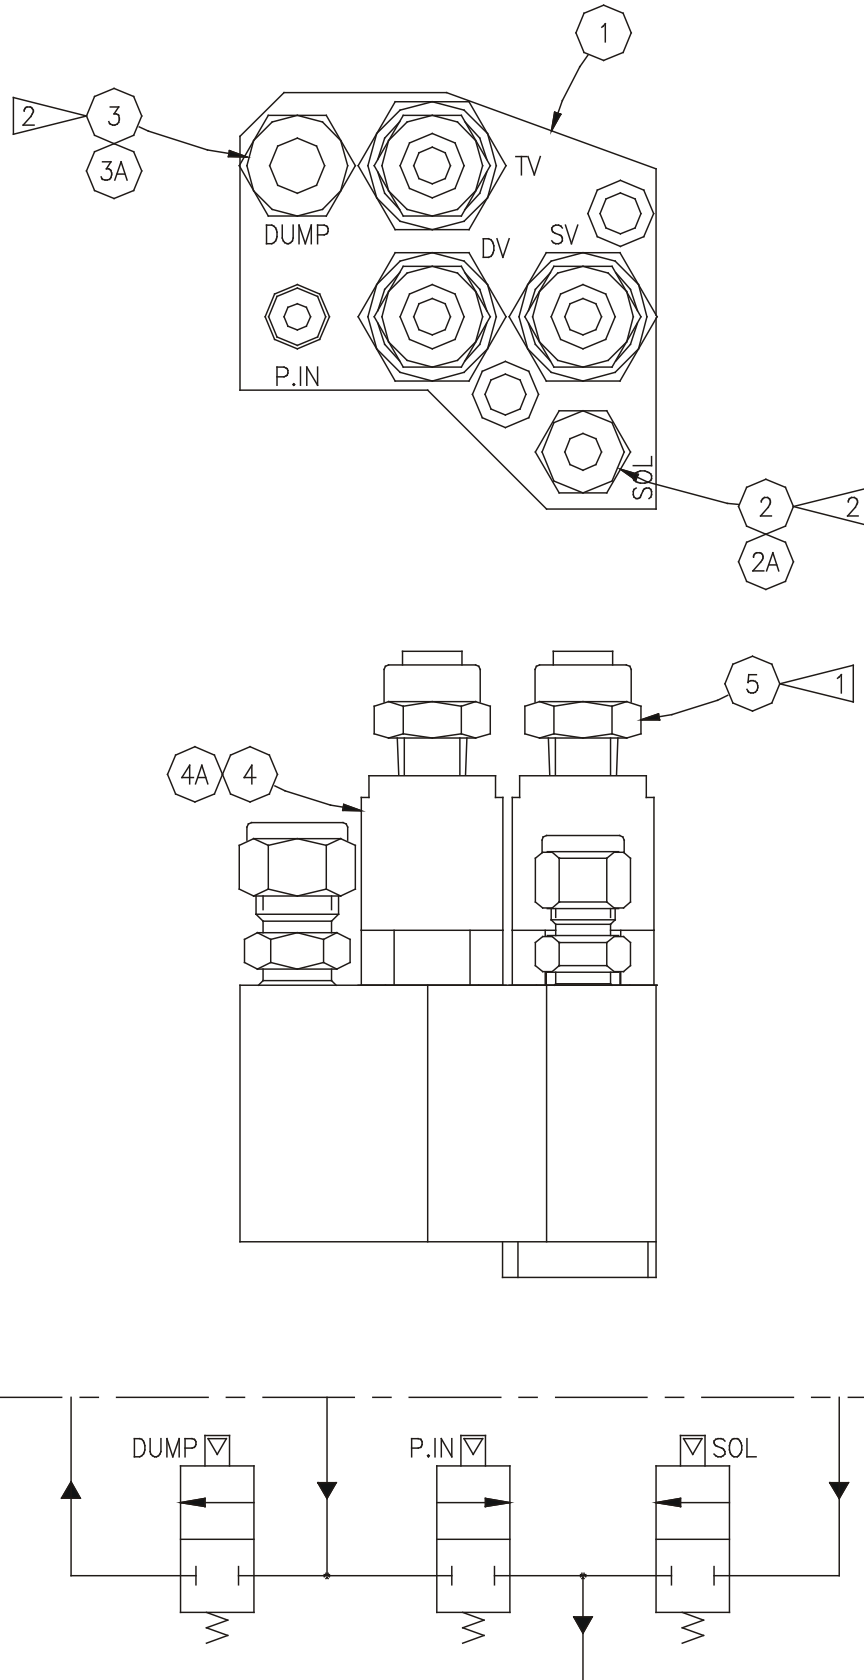

Figure 18: Fluid Manifold Assembly
FLUID MANIFOLD ASSEMBLY - PARTS LIST (Figure 18)
* PARTS LIST BULLET DEFINITION TABLE (Figure 18)